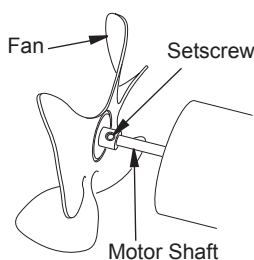

Figure 8 - Fan, Motor Shaft and Setscrew Location
4. Replace fan on motor shaft. Make sure setscrew is touching back of flat surface on motor shaft (see Figure 8).